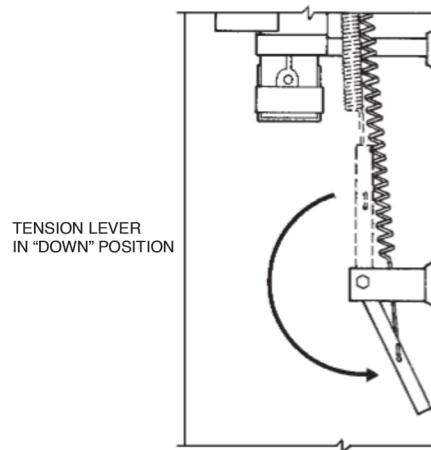

FIGURE 17
21. Lower tension lever to "DOWN" position. See Figure 17.